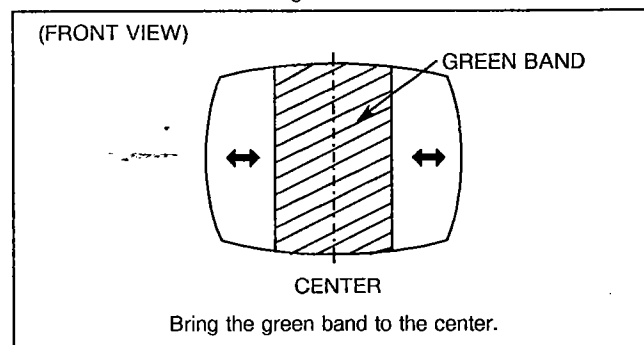

Fig. B-3
4. Turn the GREEN CUT-OFF VR to maximum and the RED and BLUE CUT-OFF VRs to minimum. Then adjust the SCREEN VR so that the green band can be seen best. (Fig. B-3)